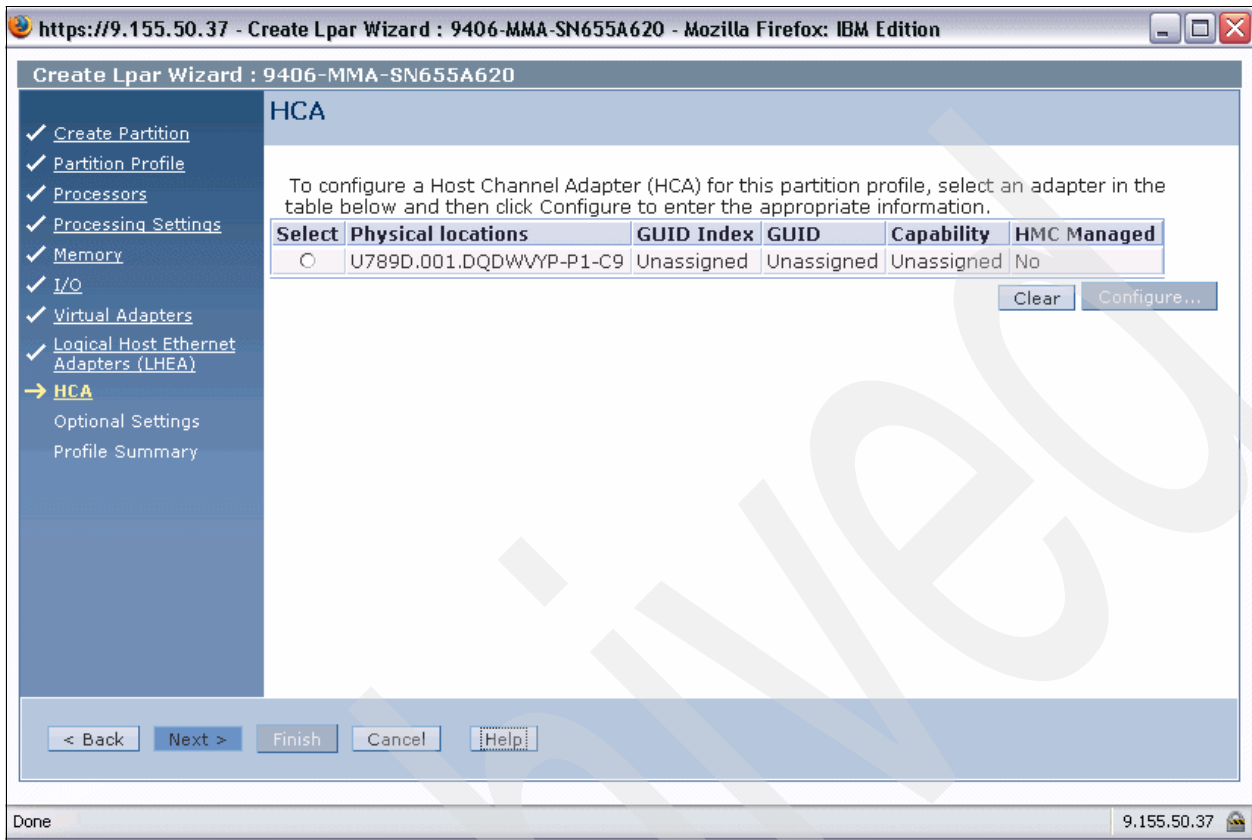

Figure 6-18 Create LPAR HCA dialog
16. We select **Next** on the HCA dialog shown in Figure 6-18 to skip configuring a Host Channel Adapter since we do not use InfiniBand® clustering.